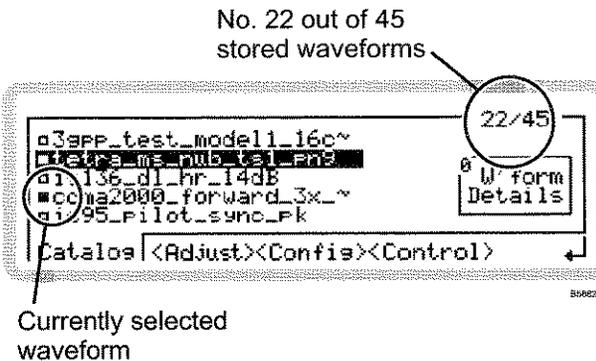
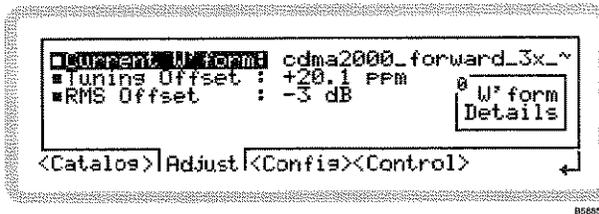
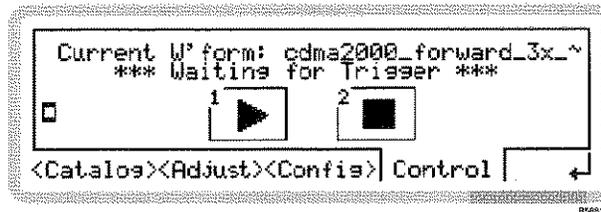

Fig. 3-29 ARB catalog
Fig. 3-30 ARB adjust
Fig. 3-32 ARB control
- 2 Press **SIG GEN** to show the main screen, and touch the **IQ** soft box to select the function. Touch **W form** and press **↓** to view the ARB catalog menu (Fig. 3-29).
From the ARB catalog menu of Fig. 3-29, touch <Adjust> or press **<TAB>** to display the ARB adjust screen (Fig. 3-30).
From the ARB catalog menu of Fig. 3-29, touch <Config> or press <TAB> to display the ARB configuration screen (Fig. 3-31).
From the ARB catalog menu of Fig. 3-29, touch <Control> or press  to display the control screen (Fig. 3-32).